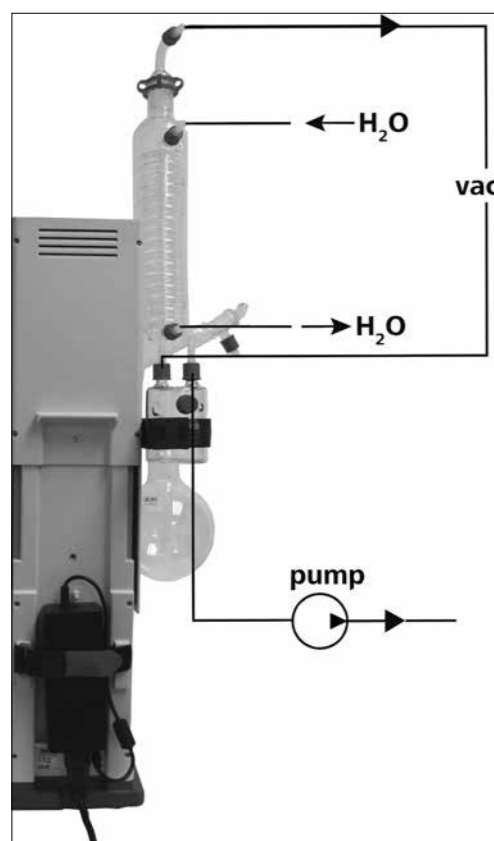

Fig. 20
- Connect the water hoses (**H2O**) to the condenser according to the counter-flow principle. (Fig. 20)